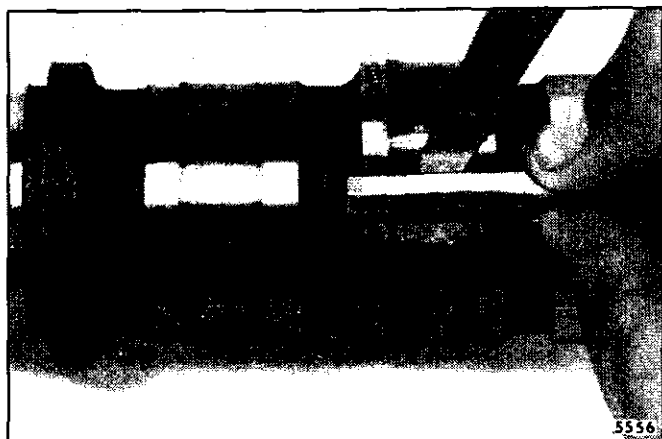

Fig. 4 - Checking Cam Lobe Wear
1. With a tapered leaf set of feeler gages (.0015"-.0100") and a piece of square hard material $1/8$ " x $3/8$ " x 1" measure the flat on the injector rise side of the cam lobes (Fig. 4).